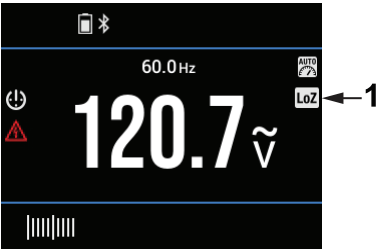

Figure 8.6 Lo Z (low impedance) mode screen example. Notice item 1, the Lo Z icon.
Refer to Section 8.9 for voltage measurement instructions. Refer to Figure 8.6, below, for an example of a Lo Z measurement screen, notice the Lo Z icon (item 1, in the figure).